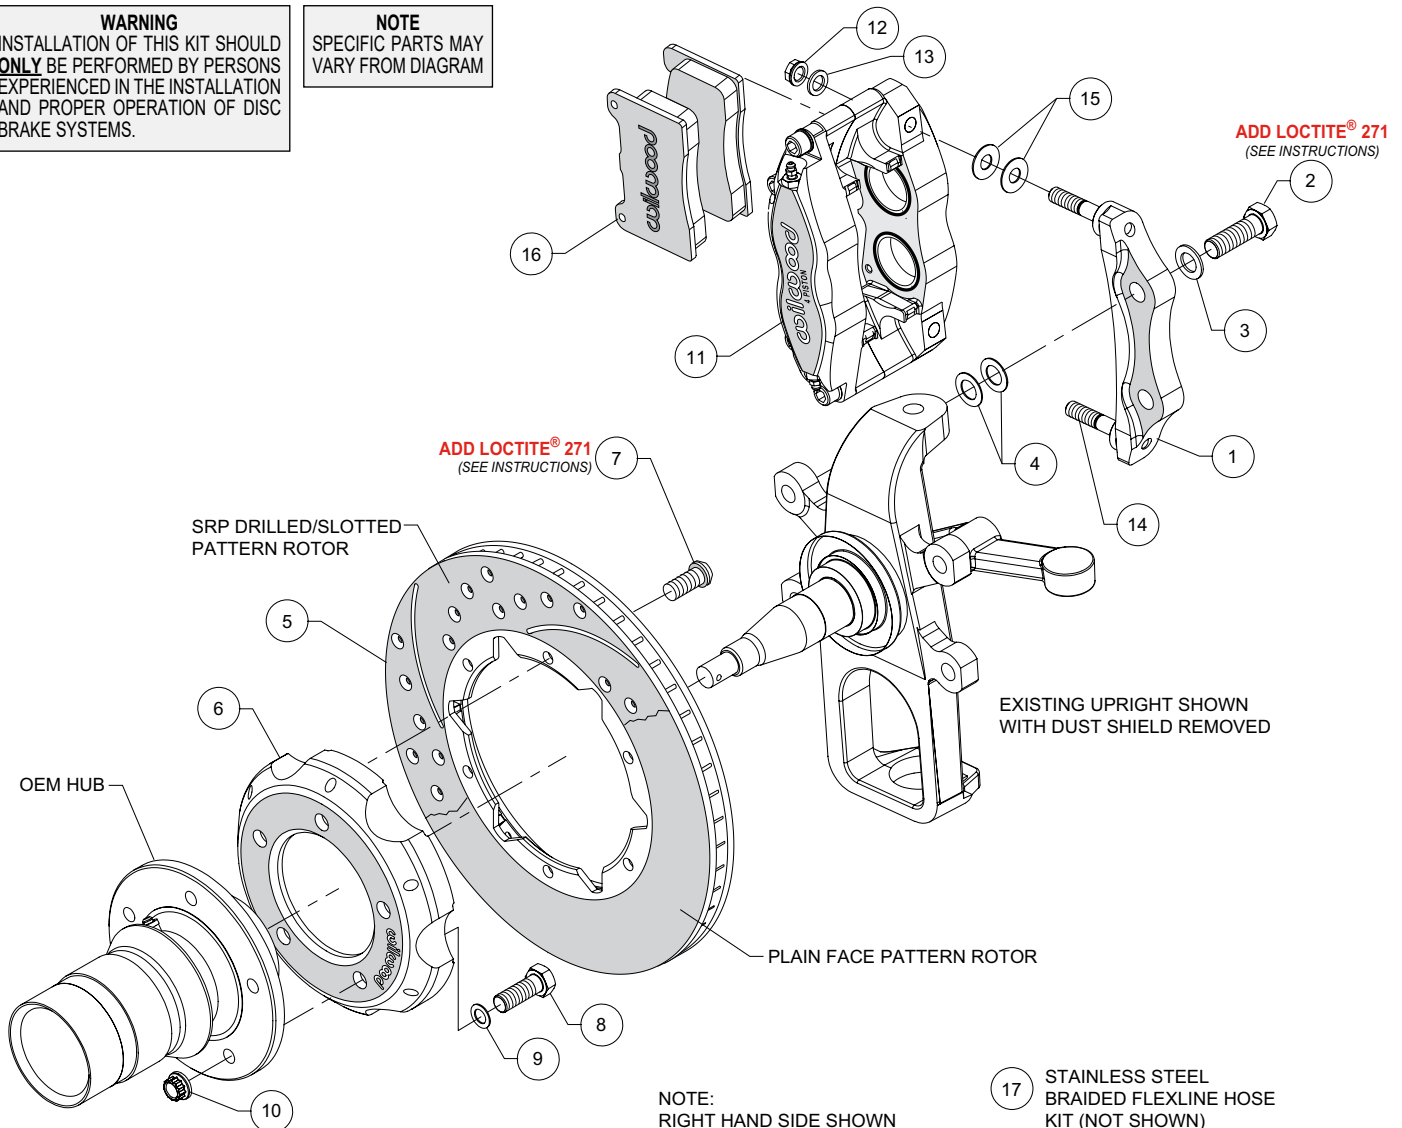

Figure 1. Typical Installation Configuration
Assembly Instructions (numbers in parenthesis refer to the parts list and Figure 1 on the preceding pages):
- The caliper mount bracket (1) should initially be installed with clean, dry threads on the mounting bolts. Orient the bracket, as shown in Figure 1 and Photo 1, and install using bolts (2) and washers (3). Initially place two .032" thick shims (4) on each bolt between the bracket and upright, Figure 1. Temporarily tighten the mounting bolts. **NOTE: The bracket must fit squarely against the mount bosses on the upright.** Inspect for interference from casting irregularities, machining ridges, burrs, etc. Later, after the caliper alignment has been checked, the mount bolts will be secured using red *Loctite*® 271.
- Orient the rotor (5) and the hat (6) as shown in Figure 1 and Photo 2. Attach rotor to hat using bolts (7). Using an alternating sequence, apply red *Loctite*® 271 to the threads, and torque to 25 ft-lbs.
- Orient the rotor/hat assembly (5 and 6) and the OEM hub as shown in Figure 1 and Photos 3 and 4. Attach rotor/hat assembly to hub using bolts (8), washers (9), and nuts (10). Torque nuts to 47 ft-lbs. **NOTE: The hat must fit flush against the hub face or excessive rotor run out may result.**
- Initially place two .035" thick shims (15) on each stud (14) as shown in Figure 1 and Photo 5. Mount the caliper (11) onto the bracket (1) using lock nuts (12) and washers (13), Figure 1. Temporarily tighten the lock nuts and view the rotor through the top opening of the caliper. The rotor should be centered in the caliper, Photo 6. If not, adjust by adding or subtracting shims (4) between the bracket and upright. Once the caliper alignment is correct, remove the bracket mounting bolts (2) one at a time, apply red *Loctite*® 271 to the threads, and torque to 77 ft-lbs.
- Insert the brake pads (16) into the caliper with the friction material facing the rotor (5), as shown in Figure 1 and Photo 7. Check that the top of the brake pad is flush with the outside diameter of the rotor, Photo 8. If not, adjust by adding or subtracting shims (15) between the caliper and the bracket. After the caliper pad height is set, torque the caliper lock nuts (12) to 30 ft-lb. Secure the pads in place using the pad clip retainer, Photo 9.